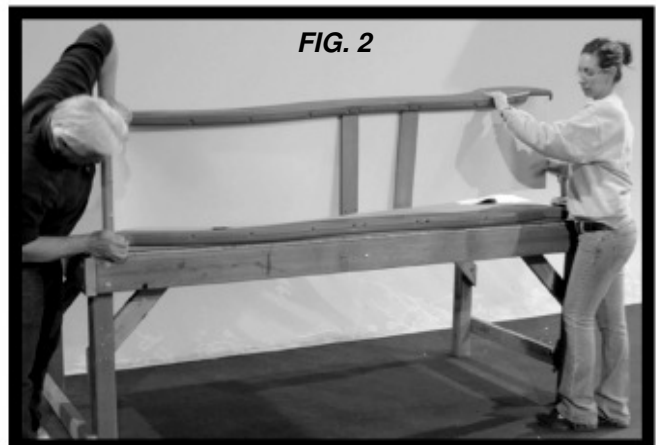

FIG. 2
- PLACE THE OTHER SLIDE RAIL ON A FLAT SURFACE WITH THE SLIDE CAVITY UP. HAVE A HELPER HOLD THE TOP END OF SLIDE BED AND BEGIN INSERTING THE SLIDE BED AND SLIDE BRACES INTO THE CAVITY AND SUPPORT POCKETS STARTING AT THE BOTTOM OF SLIDE AND WORKING UP TO THE TOP (FIG. 2). SECURE USING (12) 2-1/2" WOOD SCREWS AT EACH OF THE PILOT HOLE LOCATIONS AS SHOWN BELOW.